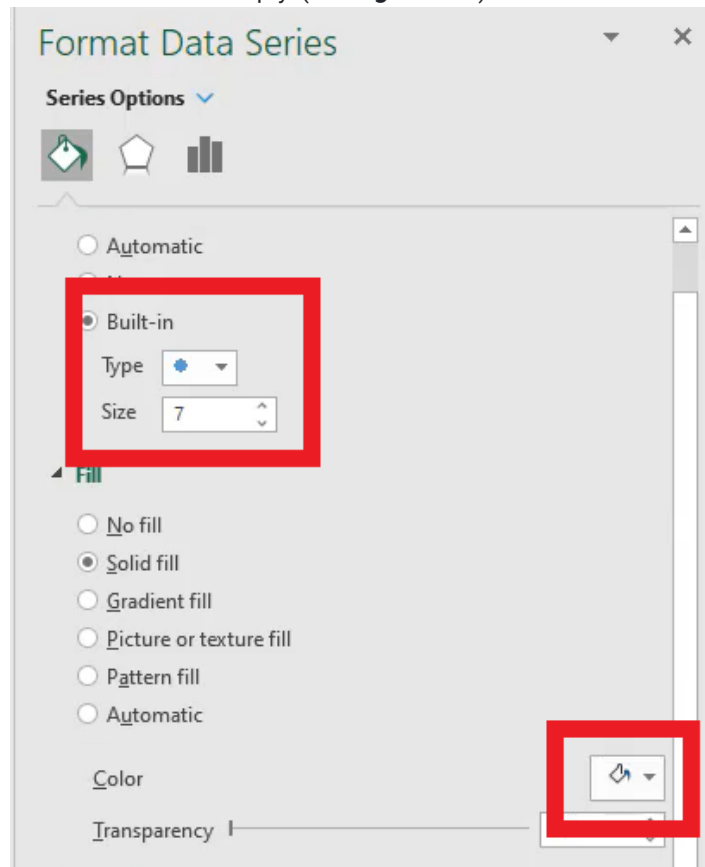

Figure 37.6
4. Change the fill color to white to make it look empty. (See **Figure 37.6**)